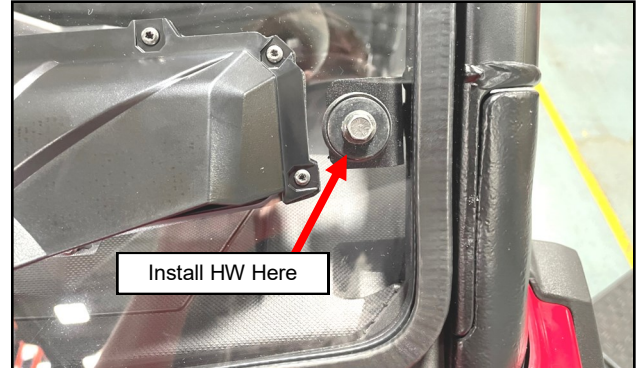

Fig. 2.3 (Install Hardware into Lower Bracket)
2.3 Per figure 2.3, install the windshield into the w/s opening found on the vehicle. Slide the top of the w/s into the formed hold down bracket. Install supplied hardware into the lower mounting brackets (do not fully tighten). Making sure to install rubber washer against the outside of the windshield.